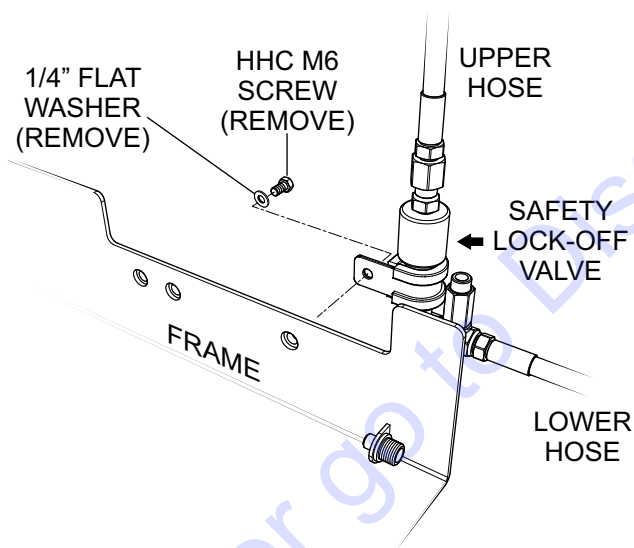

Figure 18. Safety Lock-Off Valve Bolt Removal
17. Using a 10mm socket or wrench, remove the HHC M6 screw and 1/4" flat washer that secures the **safety lock-off valve** (Figure 18) to the frame. Set screw and washer aside.